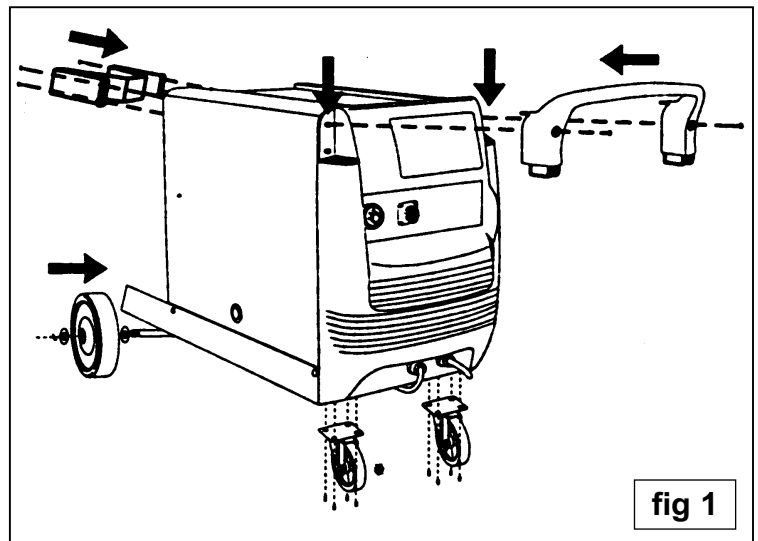

fig 1
- 4.2 **WHEEL ASSEMBLY (fig 1).**
- 4.4 **HANDLE ASSEMBLY (fig 1)**
- 4.5 **BOTTLE BRACKET ASSEMBLY (fig 1)**